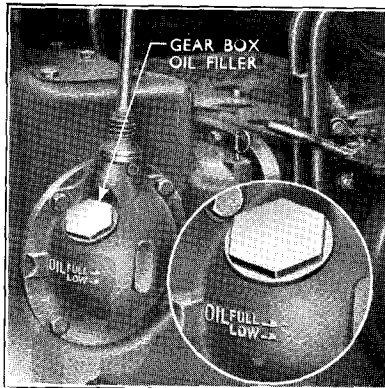

Figure 13
**THE GEARBOX.**—The only attention needed is to see that it is kept filled with oil to the “ Full ” mark on the filler. Use gear oil of S.A.E. 90 viscosity for summer and winter. If used in extremes of climate, see page 5. See also page 31 and Fig. 13.
The filler hole is located just below, and to the side of the gear change lever. Before removing the filler cap, wipe off all dirt on, or around, the cap so that none gets into the gearbox housing, see Fig. 13.